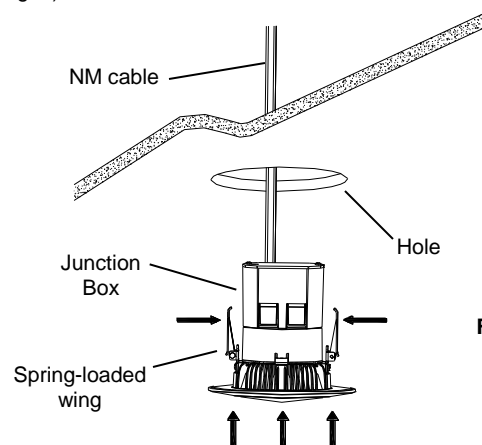

Fig. 4
7. Raise the EasyUp™ trim up to the ceiling hole, while simultaneously pushing the excess NM cable into the hole. (Fig. 4)
8. Flip up and squeeze the spring-loaded wings against the junction box, as shown, and insert the EasyUp™ trim into the hole, junction box first. (Fig. 4)